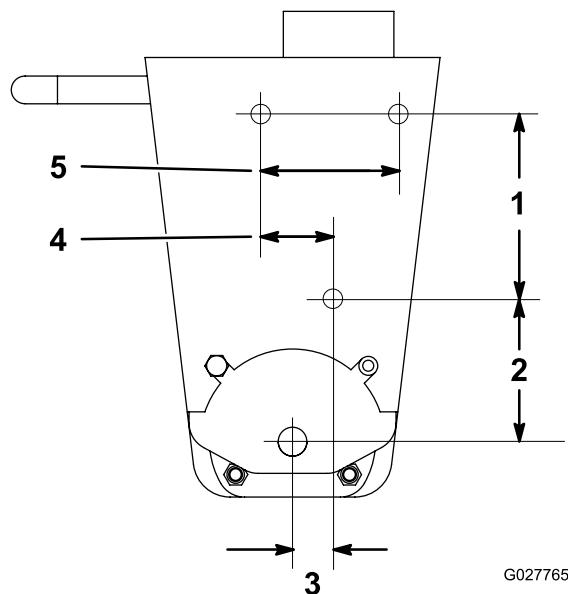

Figure 1
1. Locate, mark, and drill 3 holes (13.5 mm [0.53 inch] diameter) on each side of the rear castor fork as shown in Figure 1.